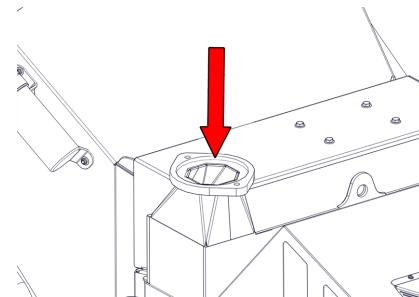

Figure 31 - Discharge flange - tube removed
3. Remove all traces of old grease and dirt from the discharge tube flange and the mounting flange (Figure 31).